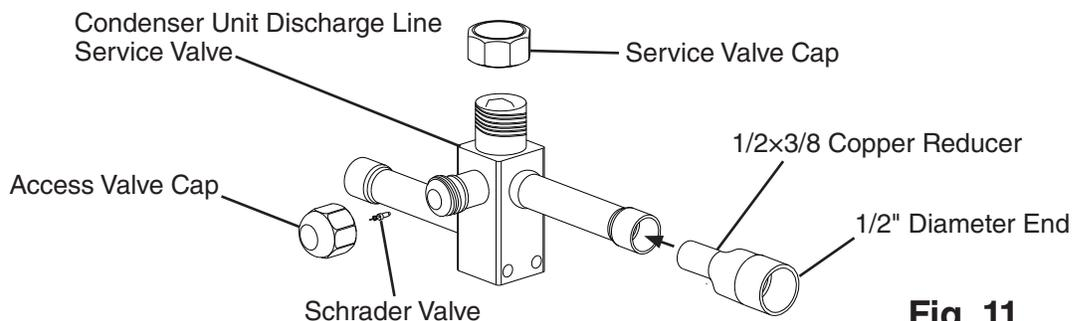

Fig. 11
- 9) Place the 3/8" end of a 1/2"x3/8" copper slip reducer (not provided) in the condenser unit discharge line service valve, then place the discharge line copper tube into the 1/2" end of the 1/2"x3/8" copper slip reducer. See Fig. 11.